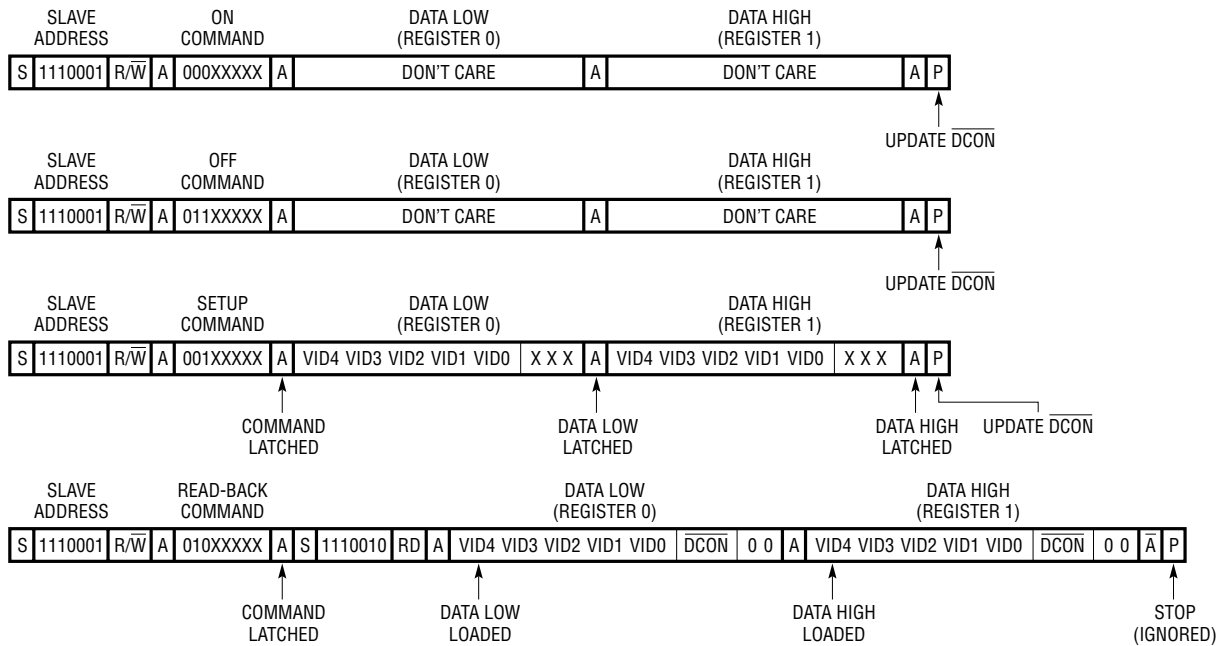

Figure 2. Write Word and Read Word Protocols
The TTL compatible VRON input pin and the output of the internal on/off state machine (SMBON) control the state of the CPU\_ON, IO\_ON, CLK\_ON and PGOOD pins. SMBON is accessed using SMBus protocols and must be programmed to a high state before the converters can turn on. The SMBus protocols (see Figure 2) incorporate safeguards against errors caused by bus conflicts.
The Write Word and Read Word protocols (Figure 2) share three common features. First, the 7-bit slave address for both protocols is internally hardwired to 1110001B = E2H. A single R/W bit follows the slave address. This bit is low for data transfer from the microprocessor to the LTC1699-80, LTC1699-81 or LTC1699-82 and high for transfers in the opposite direction.
Each Write Word protocol (Figure 2) begins with a start bit (S) and ends with a stop bit (P). As shown in the Timing Diagram the start and stop bits are defined as high to low and low to high transitions respectively, while SCL is high. In between the start and stop bits, the microprocessor transmits four bytes to the LTC1699-80, LTC1699-81 or LTC1699-82. These are the address byte, an 8-bit command code and two data bytes. The LTC1699-80, LTC1699-81 and LTC1699-82 sample each bit at the rising edges of the SCL clock.